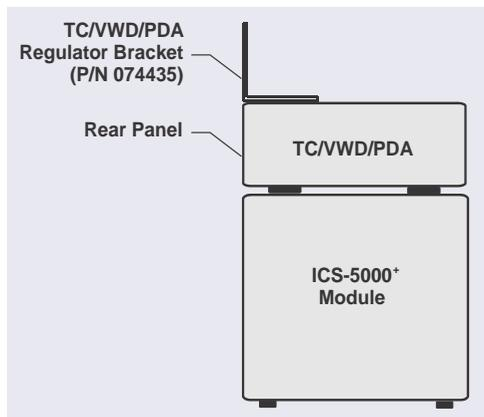

Figure A-1. TC/VWD/PDA Regulator Bracket Orientation
1. Place one leg of the regulator bracket on top of the TC or detector. Orient the bracket as shown in Figure A-1.